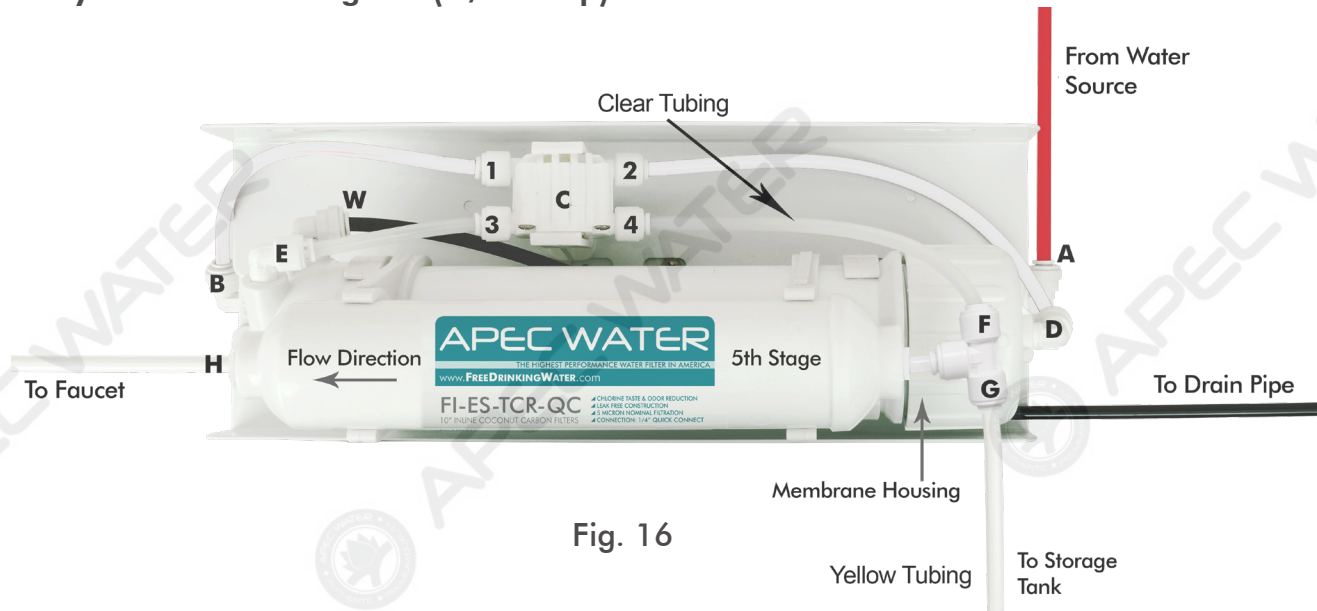

Fig. 16
- ASO connection Error → See **Fig. 16 A & B** to reconnect ASO to the correct connection.
- Disconnect the water tubing at Stage 3 output **Point C1 (Fig. 16 A)** and aim the tubing at the bucket. **Point D** is the stage 4 RO filter inlet tubing.